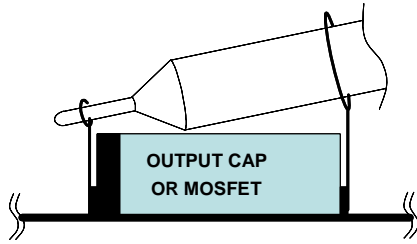

FIGURE 2. PROPER PROBE SET-UP TO MEASURE OUTPUT RIPPLE AND PHASE NODE RINGING.
6. Use oscilloscope to observe output voltage ripple and Phase node ringing. For accurate measurement, refer to Figure 2 for proper test set-up.